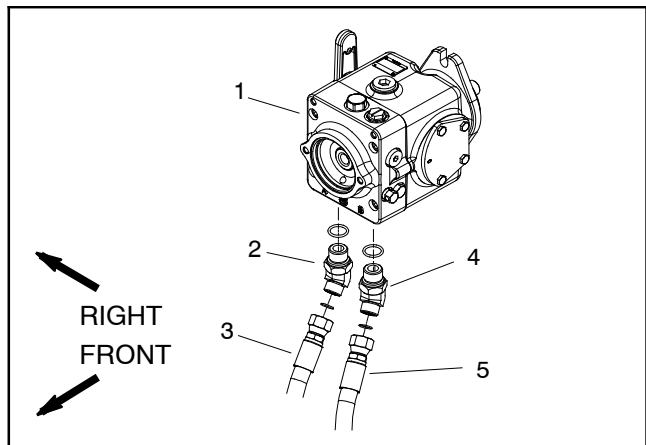

Figure 56
3. Thoroughly clean junction of hydraulic hose and **left** side elbow fitting on bottom of traction pump (Fig. 56). Disconnect hose from left side pump fitting.